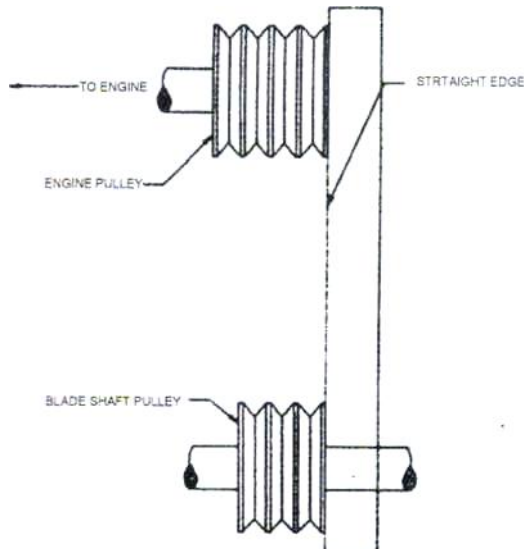

Fig.1
2. Take up tension until the belts are snug in the grooves. Run the drive for about five (5) minutes to "seat" the belts. Then impose the peak load. If the belts slip, tighten them until they no longer slip at peak load. Most new belts will need additional tensioning after seating.
6. To check alignment, use a steel straight edge. See Figure 1.